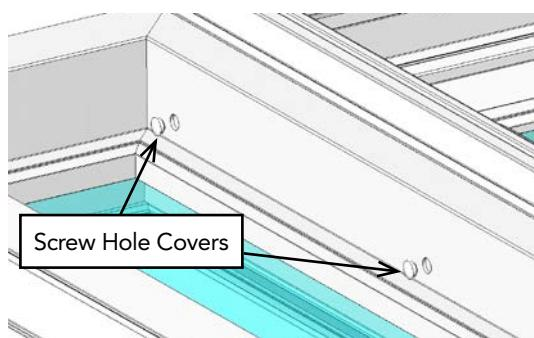

Figure 26
29. Install screw hole covers into the 3/8" mulling screw holes in the sidelite or transom frame (**Figure 26**). If a sidelite was mulled to the operating side of the door, install hole covers into the mulling screw holes in that side jamb as well. **Do not install covers on the head of the door when mulling a transom as it will interfere with the head insert.**